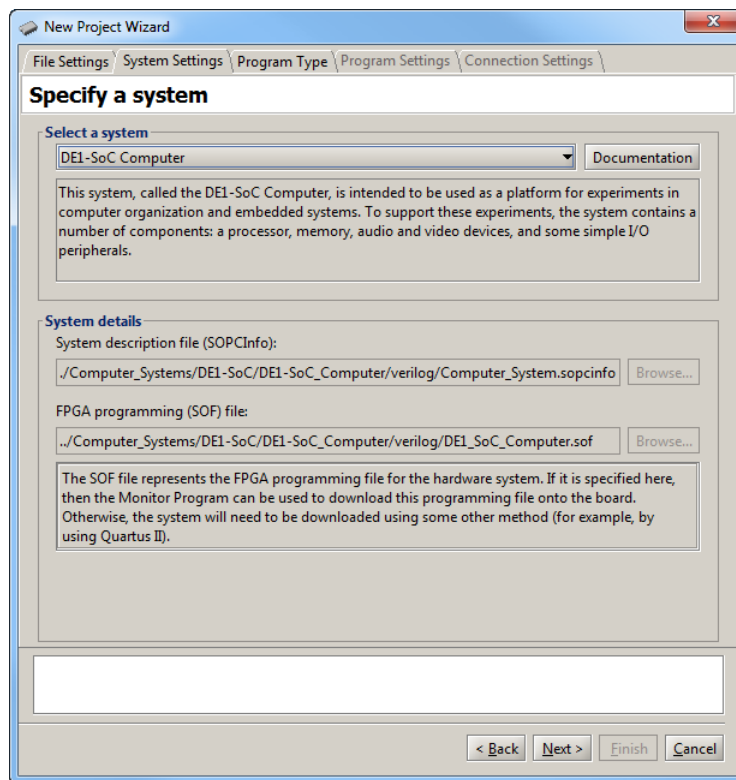

Figure 6. Specifying the desired hardware system.
2. Click **Next** to advance to the window shown in Figure 6, which is used to specify a particular system. A hardware system to be implemented on the FPGA board is usually generated by using Quartus's Qsys tool. Information about creating systems using Qsys can be found in the *Introduction to the Intel Qsys System Integration Tool* tutorial, which is available in the University Program section of Intel's website.
For this tutorial we have chosen DE1-SoC Computer, as depicted in Figure 6. In the top right corner of the screen there is a **Documentation** button. Clicking on this button opens a user guide that provides all information needed for developing ARM programs for the DE1-SoC Computer, such as the memory map for addressing all of the I/O devices in the system. This file can also be accessed at a later time by using the command **Settings > System Settings** and then clicking on the **Documentation** button.